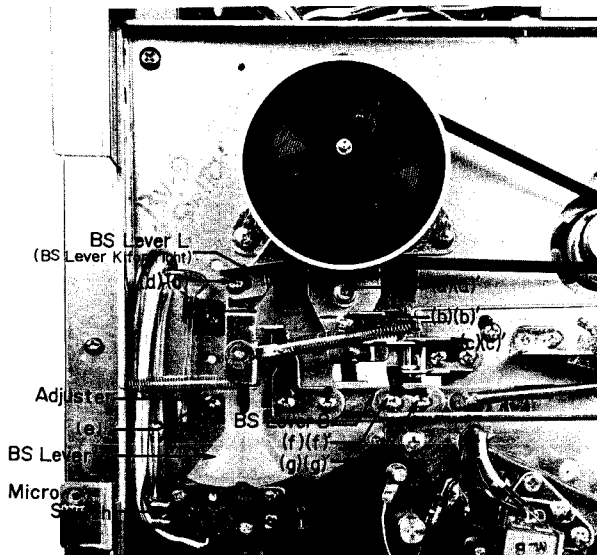

Fig. 8
1. TENSION ADJUSTMENTS (See Fig. 8)
(See Fig. 8)